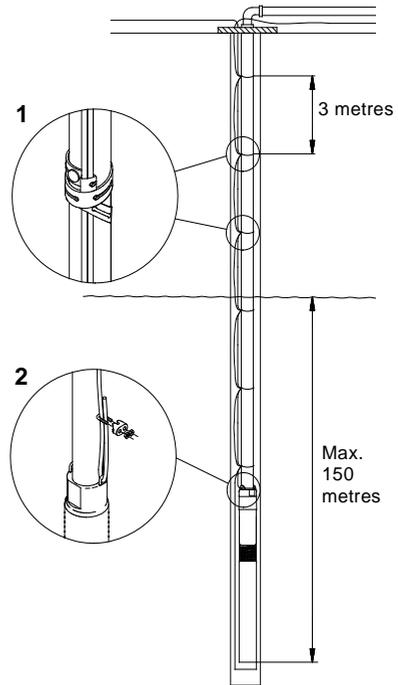

Fig. 10
Figure 10 shows a pump installation with indication of:
Cable clips must be fitted every 3 metres, see fig. 10.
**Maximum** installation depth below the static water level: 150 metres, see fig. 10.
It is recommended to secure the pump by an unloaded straining wire, see fig. 10, pos. 2.